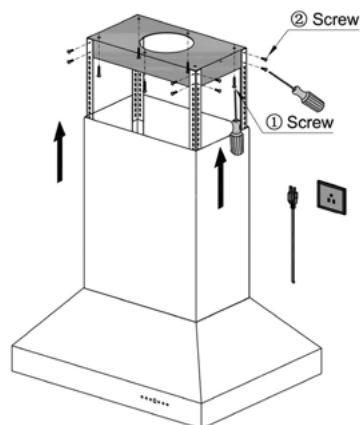

Figure 4
- Slide chimney pieces over the angle iron on the hood. Pull the electrical plug to the top of the chimney sections. *Figure 4*